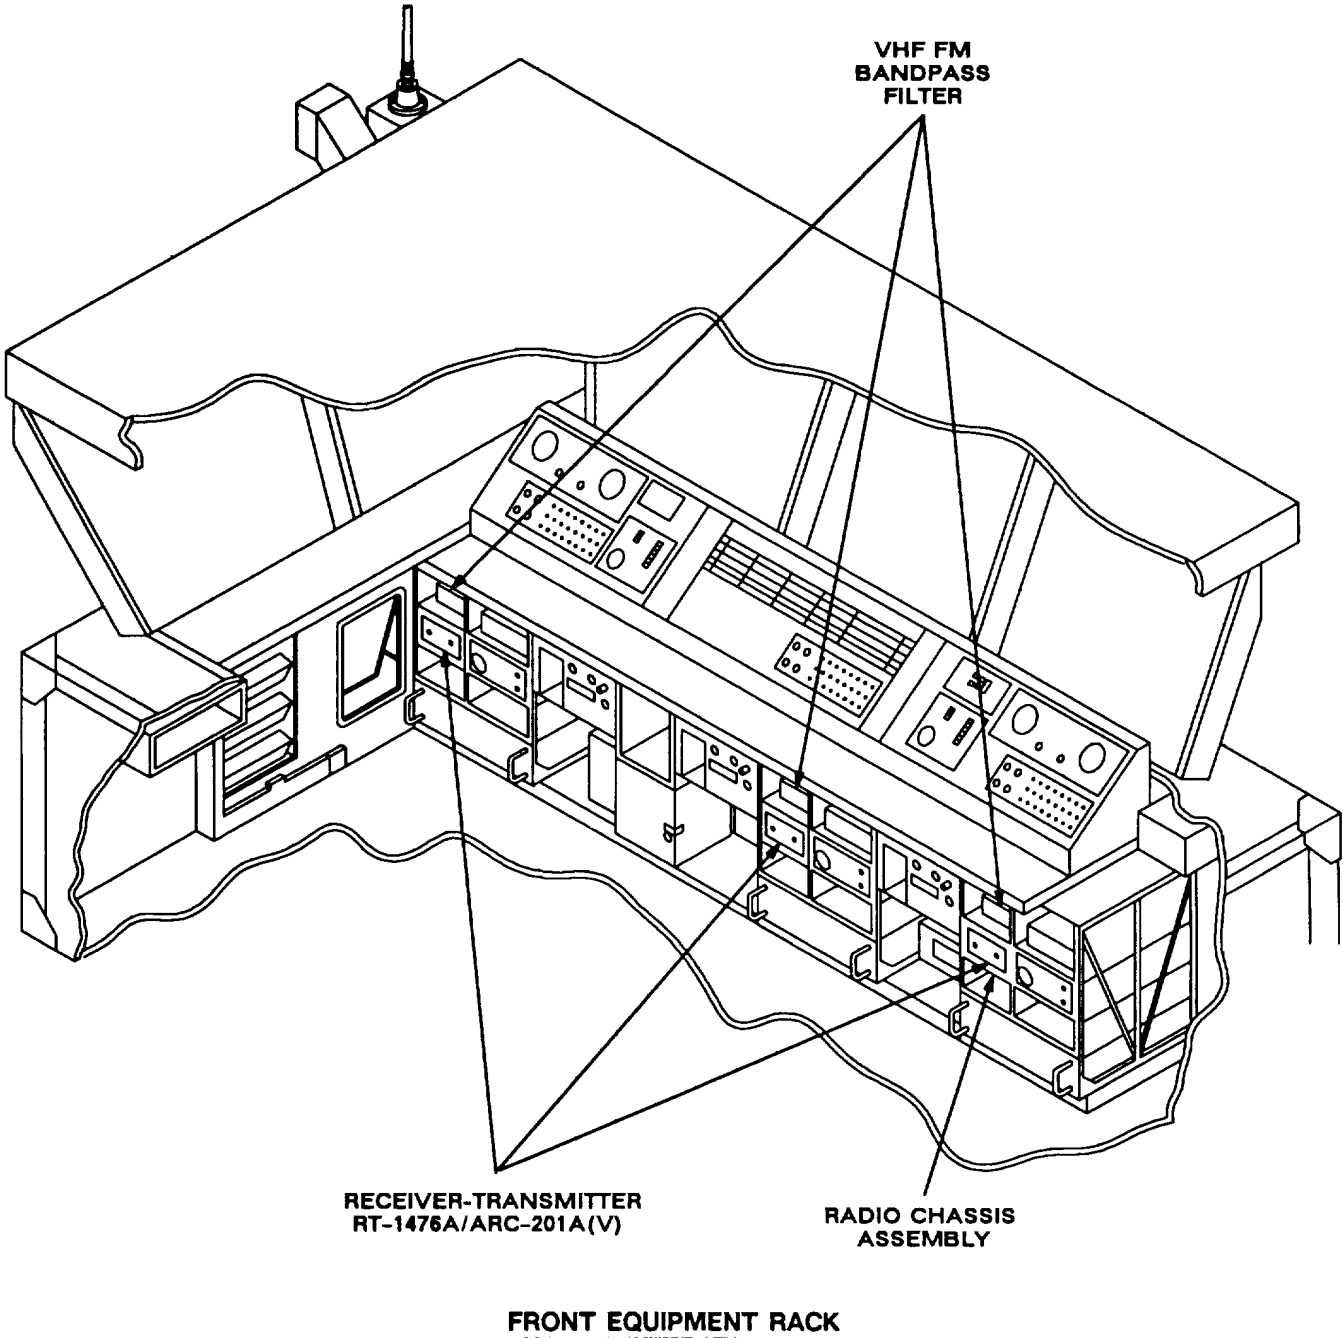

Figure 5-1 (2). MK and Radio Installation: Radio Equipment Locations
5.1 Installation of Antenna AS-3900/VRC (antenna). Perform the following procedures to install antennas on the shelter and two tripods. See figure 5-1 (1) for locations.